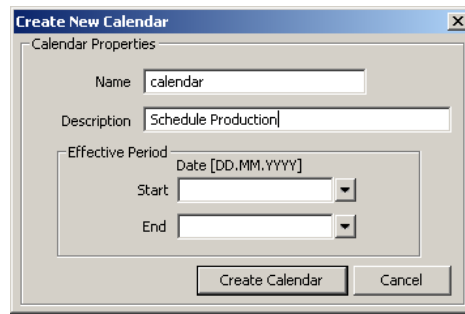

Figure 100: Create New Calendar dialog box.
3. In the Create New Calendar dialog box (as shown in Figure 100) enter Name and Description of the calendar. Correct the effective period if necessary.